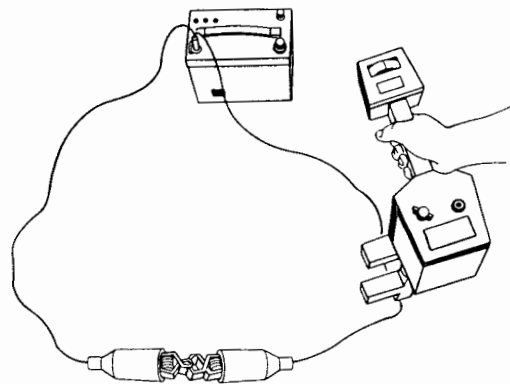

Figure 3-4: Configuration for Testing the Conductive Attachment
1. Connect the black and red ends of the conductive attachment together. Lay the connected wires out on the floor in a circular configuration (see Figure 3-4). Plug the conductive attachment into the DIRECT/4820 CLAMP jack of the Transmitter.